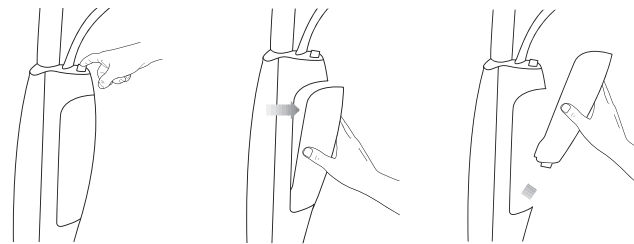

Figure 1
1. Press Water Tank Release Button to remove Water Tank. Pull Water Tank towards you and upwards to remove. (Figure 1).